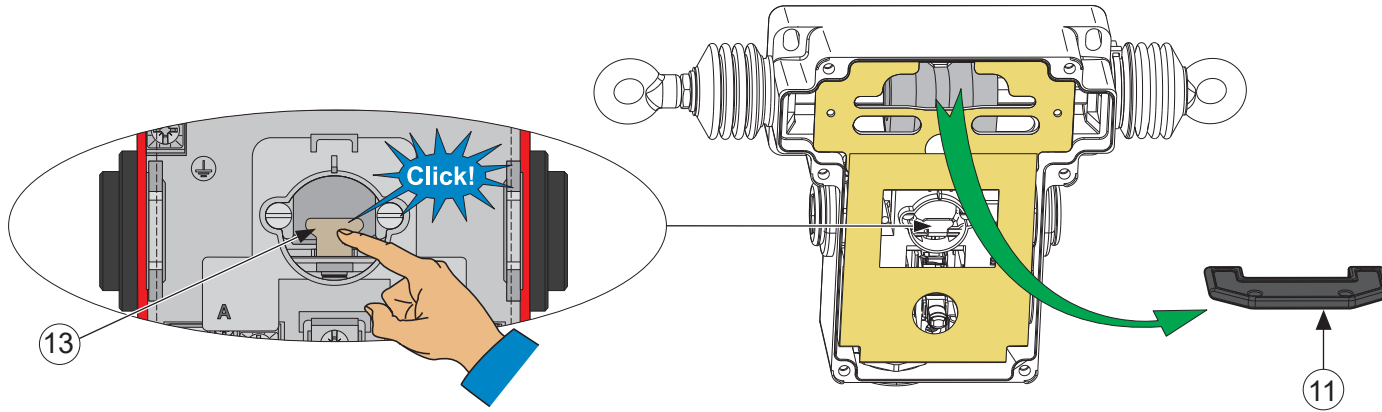

Fig.9
- Mount the cover onto the device ① using the six screws ⑬ (tightening torque = $1,5 \pm 0,1$ Nm / $1,1 \pm 0,07$ lb.ft) or proceed to the wiring step (fig. 9).